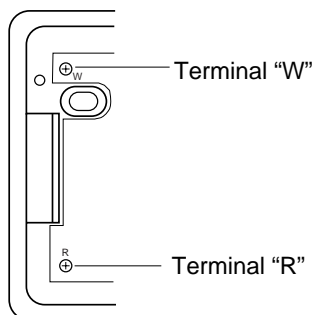

Figure 42 - Thermostat Base Terminals
7. Connect one bare wire end to each terminal ("W" and "R") of the thermostat base (see Figure 42).